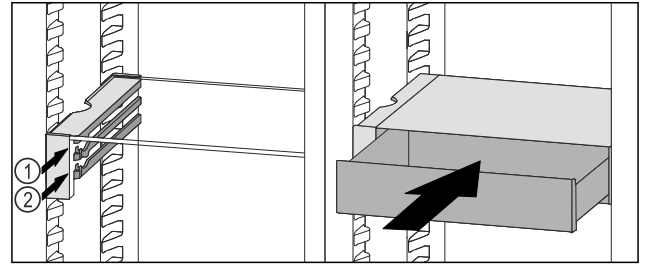

Fig. 70
- ▶ Place the VarioSafe drawer behind the stoppers on desired rib *Fig. 70 (1)* or *Fig. 70 (2)*.